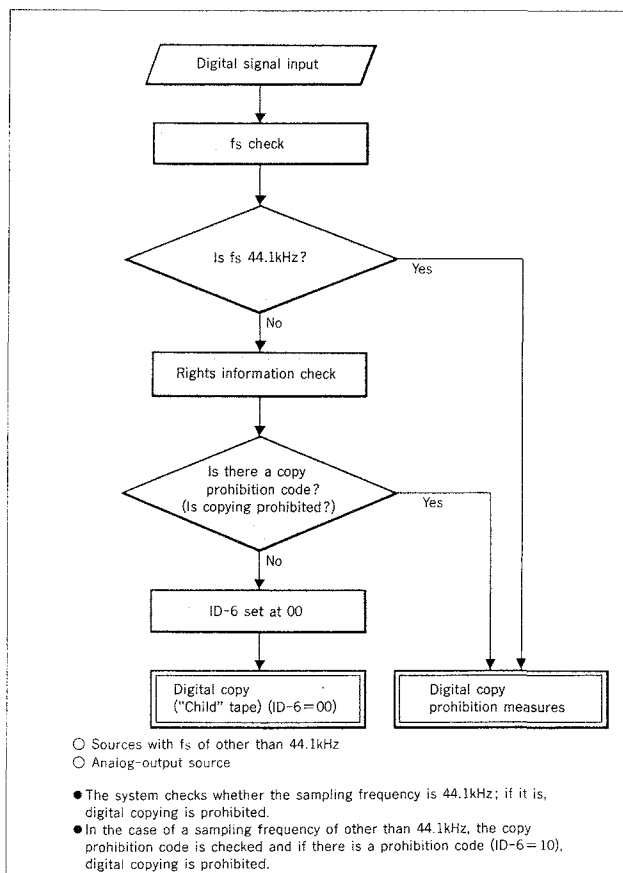

Fig. 10: Digital copying with a conventional DAT
- In conventional DATs, as shown in Fig. 10, the sampling frequency ( $f_s$ ) of the DAT digital input signal is checked and in all cases in which the  $f_s$  is a 44.1 kHz digital signal (CDs, etc.), the REC mute of the DAT deck is engaged, rendering the recording function temporarily inoperative and making it impossible to produce a digital copy.